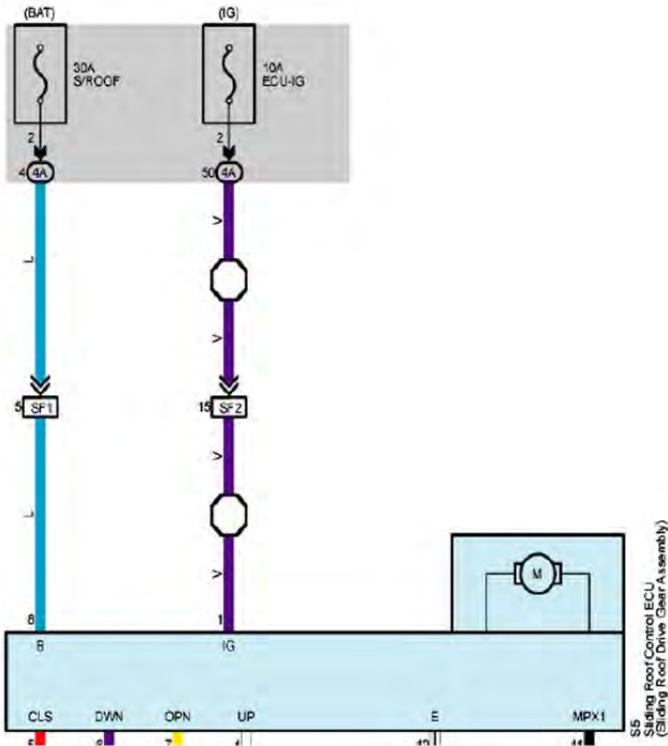

Figure 16a
16. Locate vehicle connector SF2 in the front LH pillar. Disconnect connector and pull the factory tape back. T-Tap the mirror main power harness ignition power wire (black/white) to Pin 15 violet wire in grey connector SF2. Figure 16a & 16b.